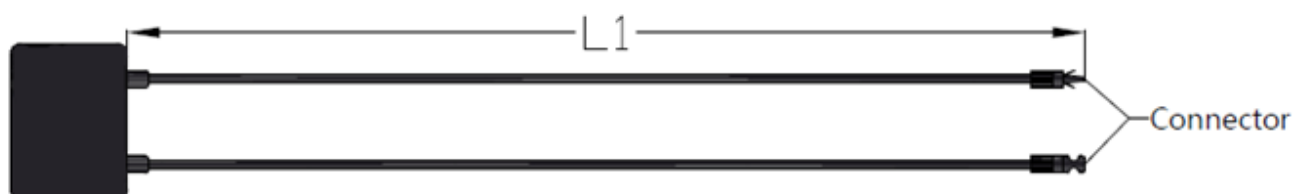

Figure 8 Junction box
- h) The cable of the junction box is defined as L, as showed below in Figure 8. For Jinko standard module, L is 900; 1200mm; and for customized module, L can be based on your condition. Please take the cable length into consideration before designing the wiring layout.